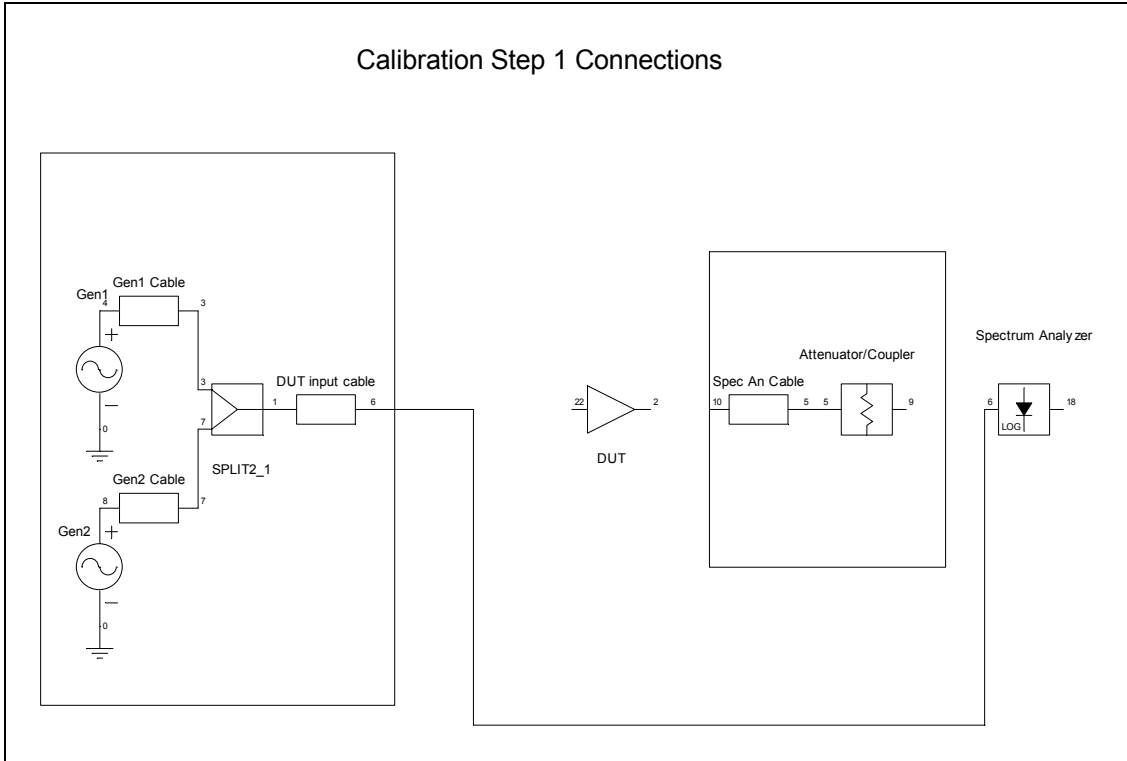
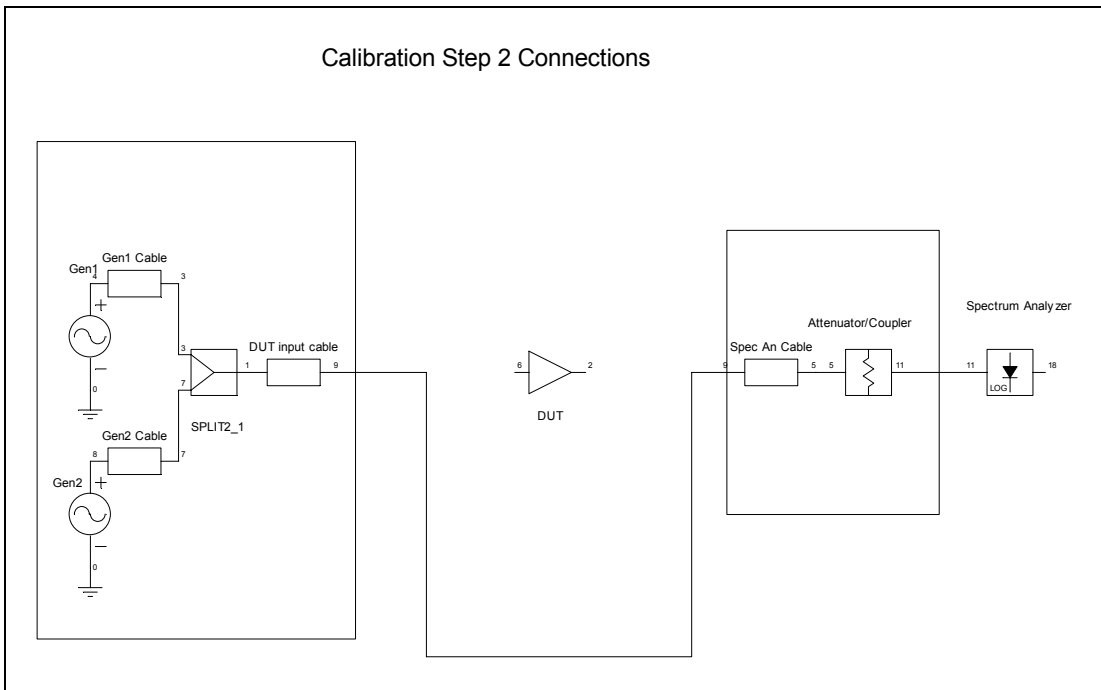

Figure 5: calibration step 1
Figure 6: calibration step 2
1. The user connects the cable that normally goes to the DUT input directly to the spectrum analyzer input. The software sweeps the generators across the whole frequency range of the test to be run in order to determine the “gains” in the power combiner and the cables², and for any offset in the signal generator output levels. See Figure 5.
2. The user next connects the spectrum analyzer input “network” which will consist of a cable and perhaps an attenuator or directional coupler. The software again sweeps the generators across the frequency range of interest (at this point they’ve been calibrated to be approximately equal), measuring the “gain” of the path between the DUT output and the spectrum analyzer. See Figure 6
4. Follow the prompts, connecting the equipment as specified BEFORE hitting "OK". The setup connections for the first and second prompts are shown in Figure 5 and Figure 6 respectively (they are also described in the dialogs). **Important note: as of the time that this document was written, the power level that is used for calibration (delivered to the spectrum analyzer input) is hard coded to -20 dBm. This was chosen as a compromise. Specifically most generators + splitter losses + attenuators at the input of the analyzer would still allow – 20 dBm to be delivered without hitting the upper limit of most signal generators output power range. This may be made an option later, but to keep things simple and accommodate most cases, this level was chosen.**
6. As a sanity check you can verify the calibration (or see how good it is) by leaving the setup configured as is shown in Figure 6, then running a test (with an appropriate power level set, perhaps much less than you intend to run with a high gain DUT). There certainly shouldn't be any distortion, but you can see how flat the gain is. I did this in my setup while preparing this document; the results are shown in Figure 9.